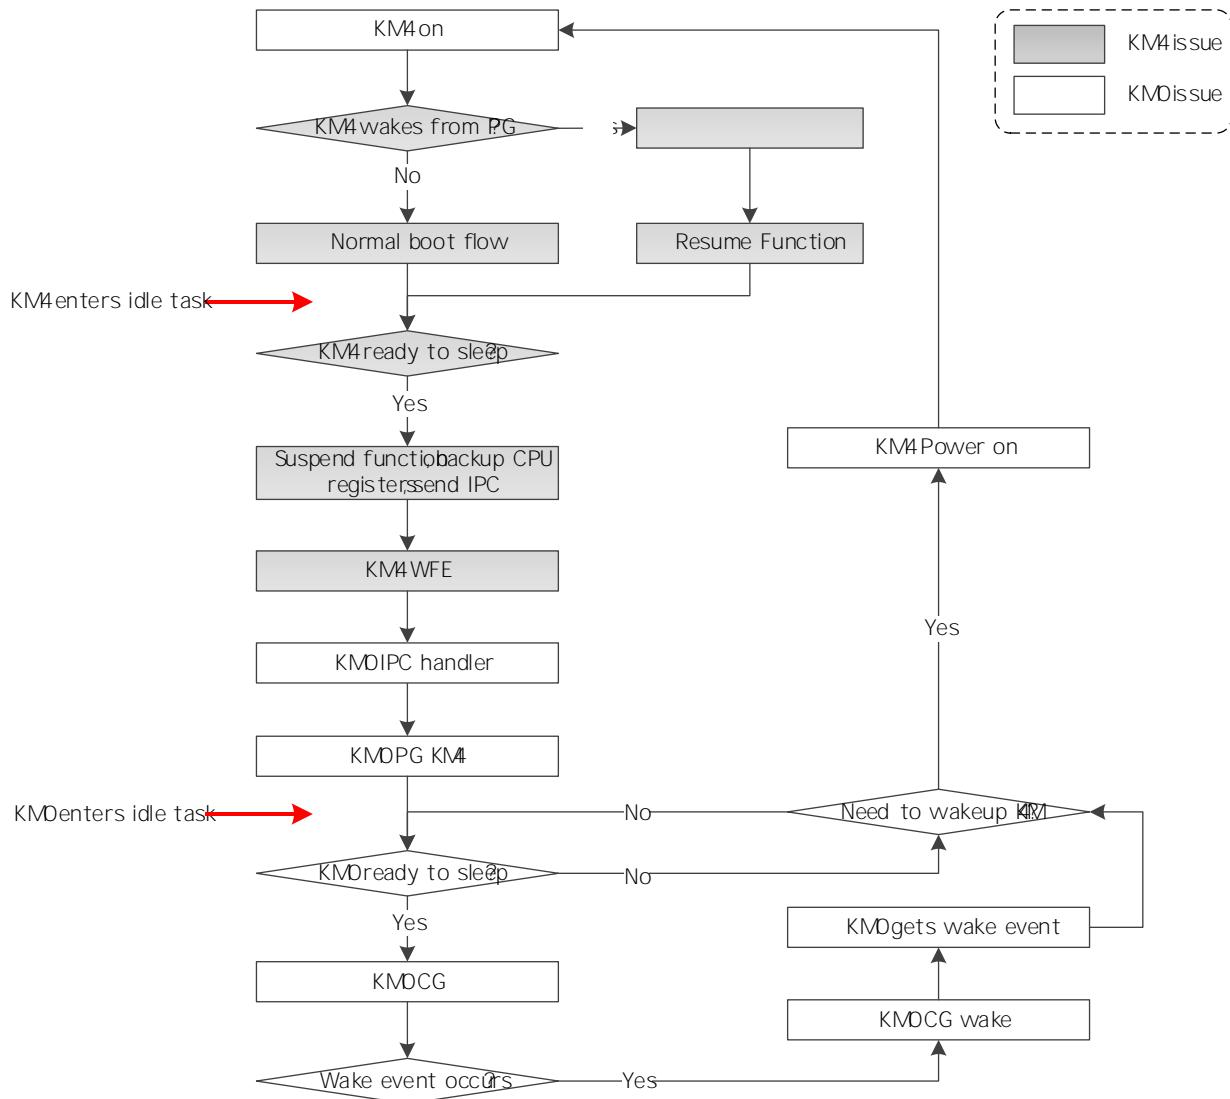

Fig15-3 KMO CG + KM4 PG
There are two sleep modes: deepgating(CG) and powergating(PG). CG means to turn off particular cores and PG means to turn off some power domains so PG has lower power consumption. Recommended sleep mode is KMO CG + KM4 PG. Figure 15-3 shows sleep and wake flow of KMO CG+ KM4 PG.